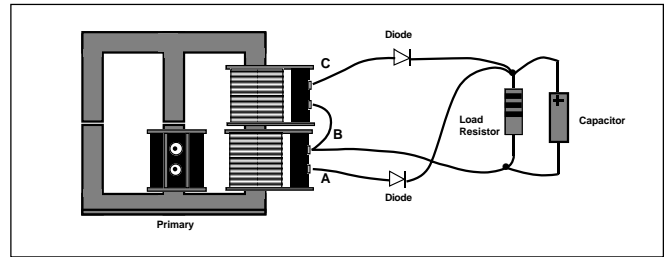

Figure 7
15. The end result in step 14 is the production of a full-wave rectified signal, one which is directional in nature, although it varies in amplitude over time. We will now add in a 470- μF capacitor as shown in Figure 7.